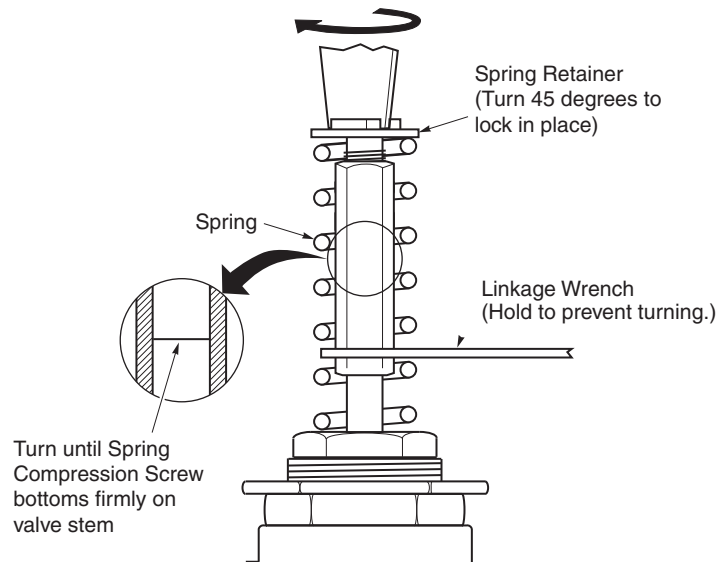

Figure-2 Completing Linkage Kit Assembly to Valve.
6. Tighten the spring compression screw. To establish proper linkage height, run the spring compression screw down until the screw end bottoms firmly on the stem top (Figure-2).